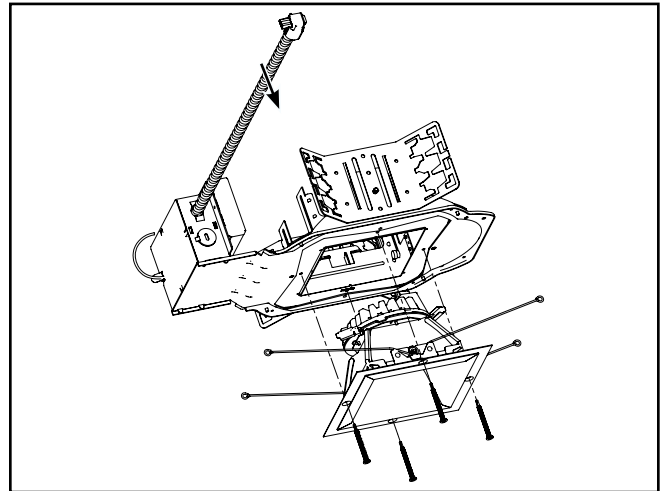
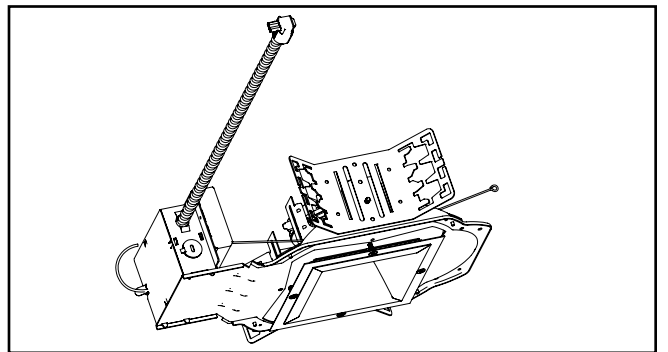

Figure 10
Figure 11
4. If the LED modules has 2 or 3 LEDs, gently remove the upper reflector by disengaging the white plastic latches (Figure 10. & Figure 11.) and discard it. Retain the upper reflector on the trim for 1LED modules.
4. Install the screws into the starter holes in the housing as shown in (Figure 10.) until slightly snug against the ceiling material making certain that the matte white flange is not deformed in any way.